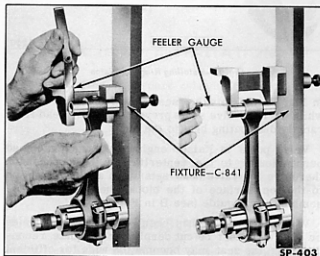

Fig. 15—Checking Connecting Rod Alignment
4. Check and correct connecting rod alignment, using Connecting Rod Aligning Fixture C-841 in accordance with instructions furnished with the fixture (Fig. 15).